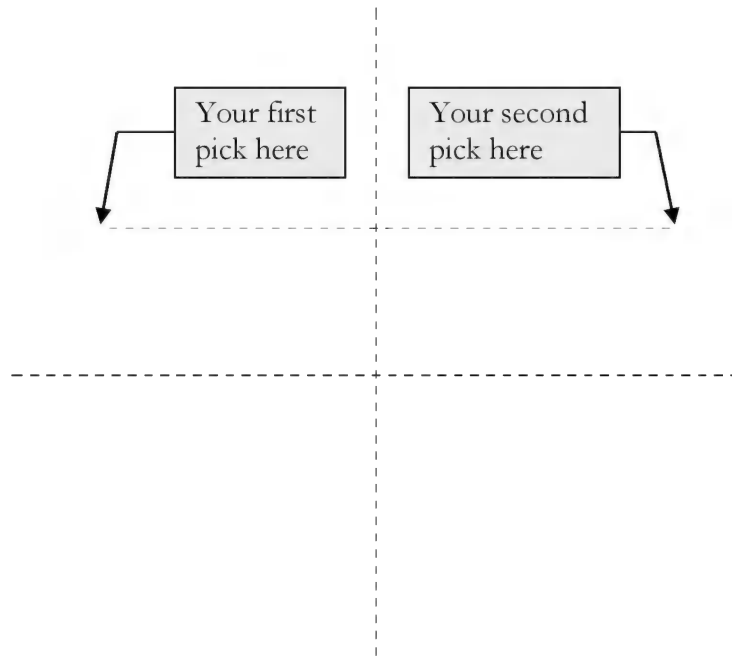

FIGURE 15-2.4 Adding a “horizontal” reference plane
5. Add a horizontal *Reference Plane* as shown in Figure 15-2.4.
The first *Reference Plane* has now been added to the new *Family*. Later in the book, a dimension will be added between the two parallel *Reference Planes* shown in Figure 15-2.4. This dimension can be locked so it does not move, or made to be parametric in which case the end user in the project environment can edit a value in the properties of a selected element, causing the *Reference Plane* to move accordingly.